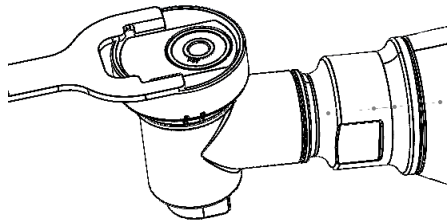

Fig.4
⚠ WARNING: Do not force the screw it could break. The maximum allowed screw force is 2Nm. For the screw use only a *clockwise* direction when the tool is positioned as show in a Fig. 4 (for unscrew use counterclockwise direction).
2) Screw the unit on a tool shaft (orbital version). Use a provided key to hold a counterweight (Fig.4).